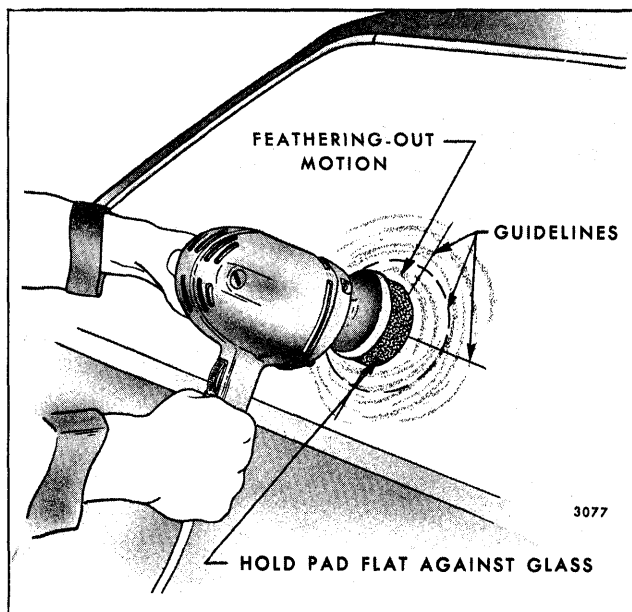

Fig. 11-1-Minor Glass Scratch Removal
guides in locating scratch during polishing (Fig. 11-1).
6. Using moderate, but steady, pressure, hold pad flat against scratched area of glass, and with a feathering-out motion, polish affected area as shown in Figure 11-1.
7. Cover sufficient area around scratch with a feathering-out motion as shown in Figure 11-1, to eliminate any possibility of a "bull's-eye".